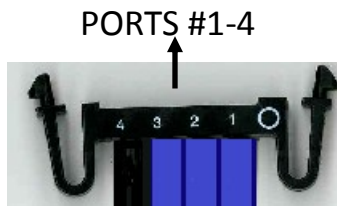

Figure 2, Latch Connectors on the ends of the garment tubing
- 2.3 Note the LATCH CONNECTORS, numbered 1—4, located at the end of the tubing on your garment (See Figure 2). With one hand squeeze the LATCH CONNECTOR with numbers facing up and push into the Receptor Ports (7) with matching numbers located on the front panel of the device. You should hear a click when fully engaged.